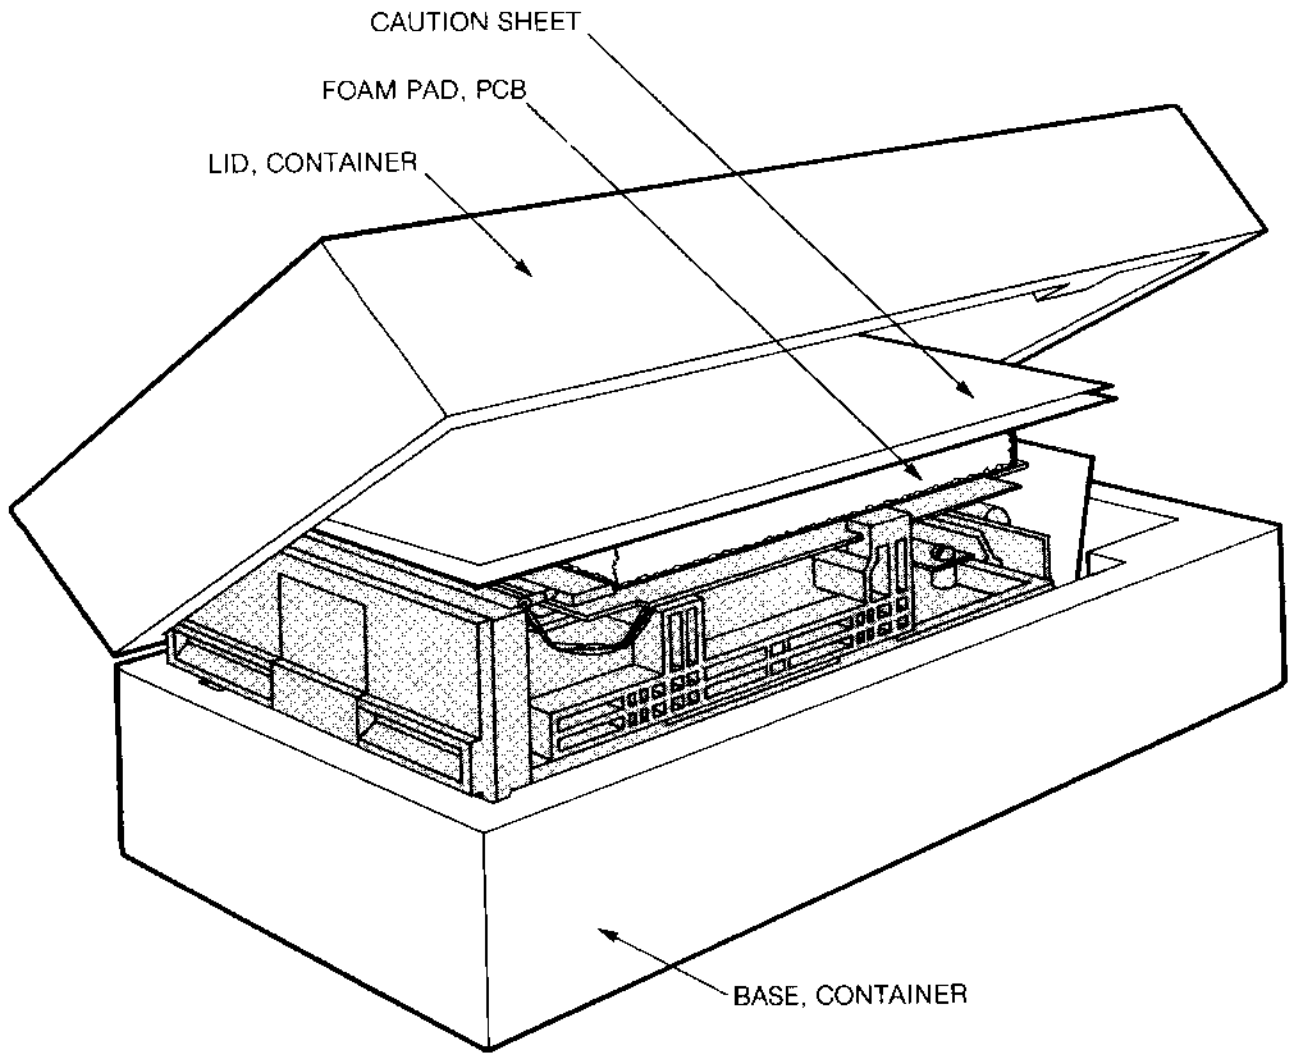

FIGURE 36. DRIVE CONTAINER
- D. Place the drive in its packing container (see Figure 36 and 37).